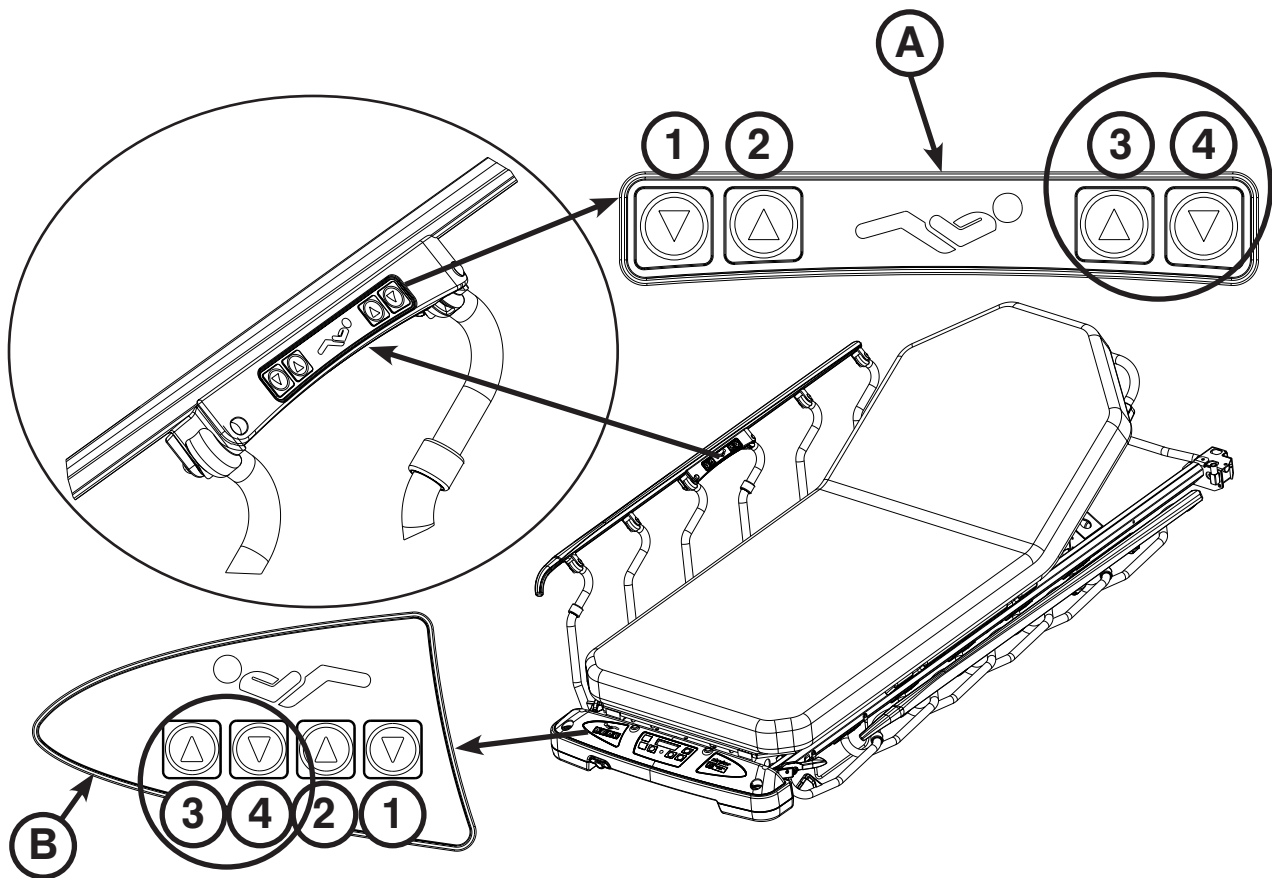

Figure 24: Fowler - Electric Option
To raise the fowler, press the UP (3) button on the patient siderail controls (A) or foot end nursing controls (B) until the fowler has reached the desired angle (between 0 and 70 degrees) as shown in Figure 24.
To lower the fowler, press the DOWN (4) button until the fowler has reached the desired angle (between 70 and 0 degrees) as shown in Figure 24.